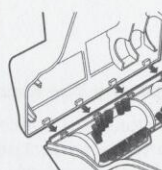

Fig. 27
- 3 To reassemble, insert the tabs on the front edge of the brushroll housing into the matching holes in the top half and tilt it back down until it clicks into place. (Fig. 27)